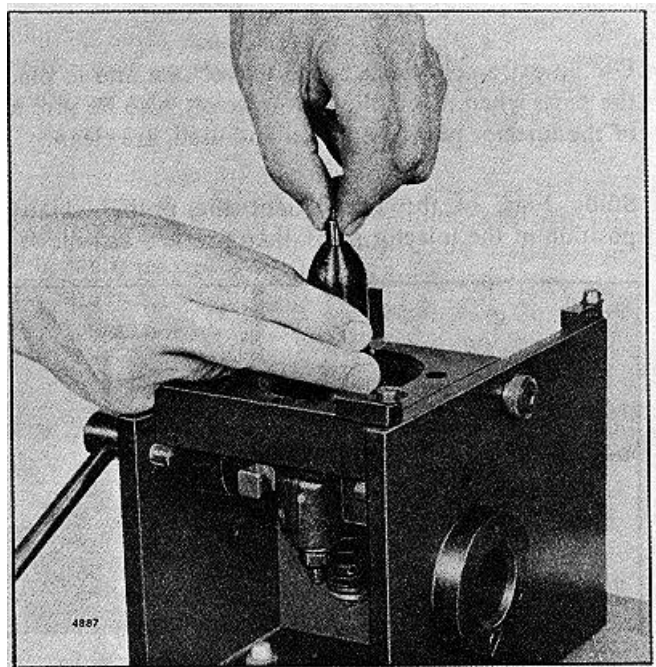

FIG. 40 - Tightening Injector Nut By Hand
8. Lubricate the threads in the injector nut and carefully thread the nut on the injector body by hand. Rotate the spray tip between your thumb and first finger while threading the nut on the injector body (Fig. 40). Tighten the nut as tight as possible by hand. At this point there should be sufficient force on the